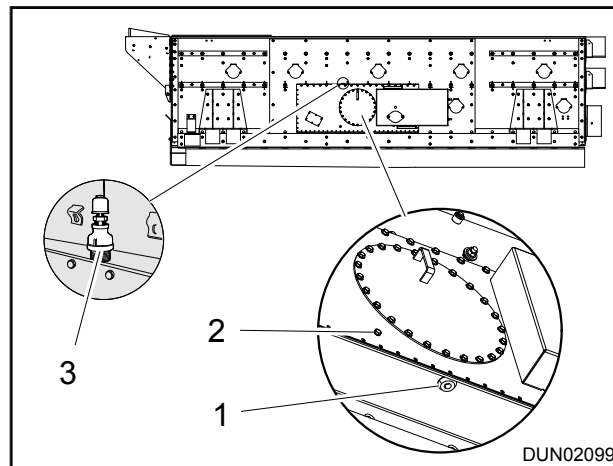

Figure 9.48 - Oil Reservoir
1. Remove oil-level plugs (item 1) from case cover, Ref: Figure 9.48.
2. Remove the magnetic drain plug (item 2) from bottom of each case and drain used oil into containers for recycling, Ref: Figure 9.48. Magnetic plugs help prevent damage to gears and bearings by attracting metal particles in oil. Look carefully at the plugs to see if metal particles are present.
4. Clean area around breather caps (item 3), Ref: Figure 9.48. Be sure fill openings are thoroughly cleaned before oil is added. Use only clean containers and tools. Do not allow dust, dirt or abrasives to enter case.